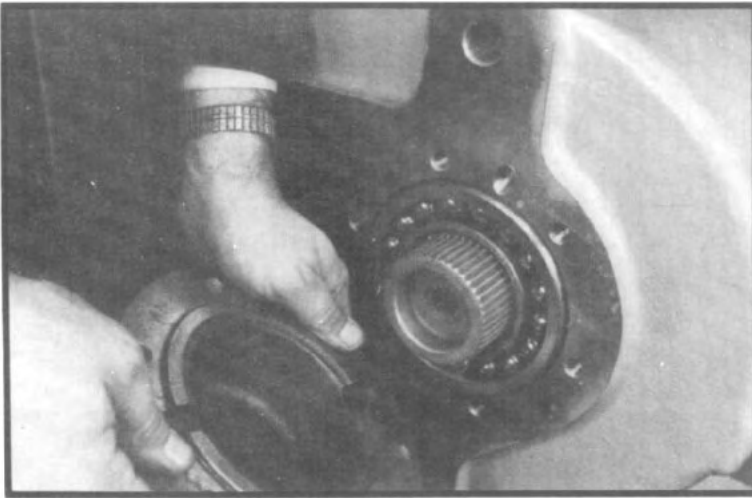

Fig. 94
12. Install rear cap and gasket to housing using the six capscrews. Be sure to align oil passages. Tighten capscrews to correct torque. (See fig. 94.)